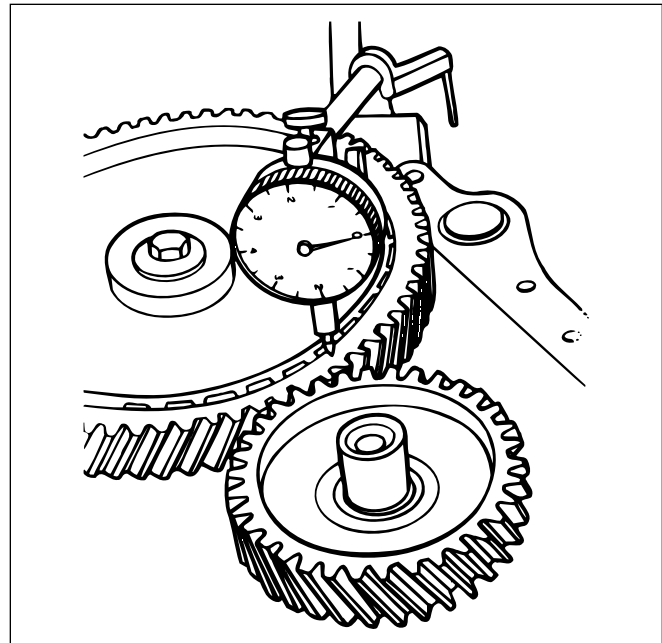

Fig. 2-35. Measuring camshaft gear runout.
1. Set up and zero a dial indicator with the plunger resting on the face of the gear just inside the teeth, figure 2-35